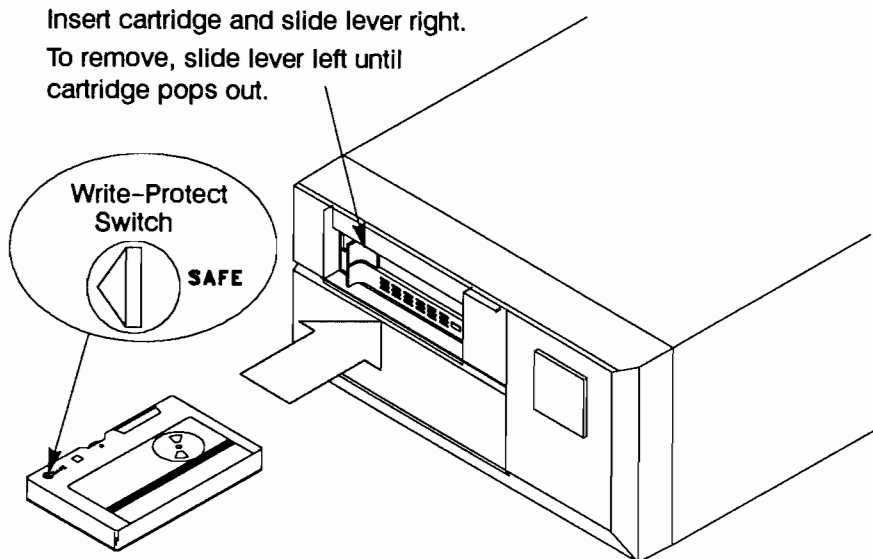

Figure 6-18. Inserting a Write-Enabled Cartridge Tape into an External Drive
2. Insert a write-enabled cartridge tape into the drive as shown in Figure 6-18.